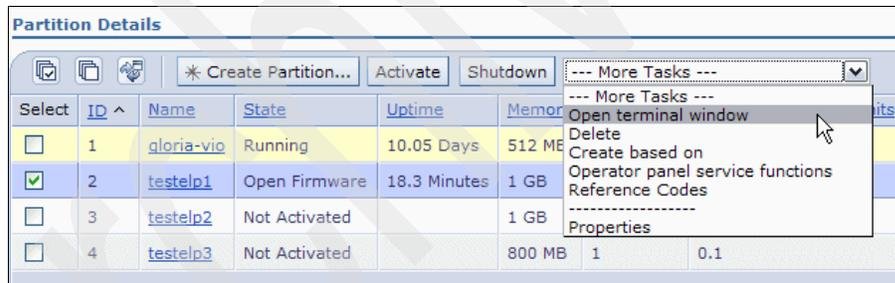

Figure 7-7 Opening a terminal window from the IVM
- c. Click the drop-down arrow to the right of the More Tasks field and select **Open terminal window** as shown in Figure 7-7.